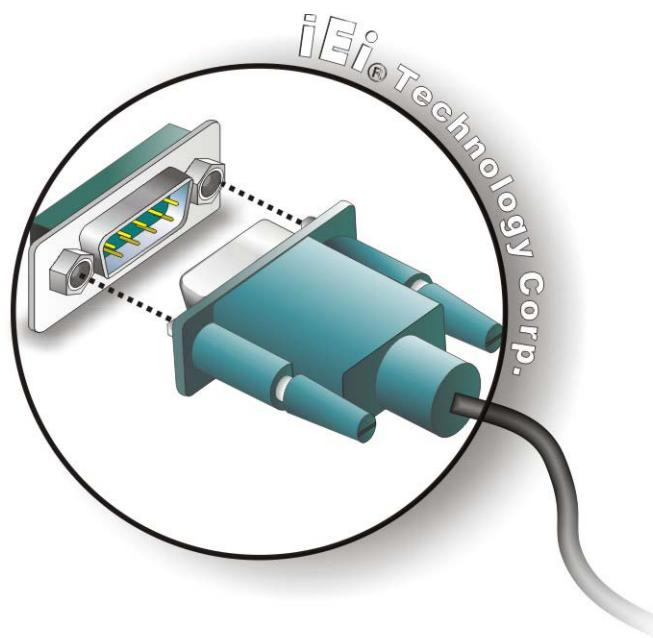

Figure 4-15: Serial Device Connector
Step 2: Insert the serial connector. Insert the DB-9 connector of a serial device into the DB-9 connector on the external peripheral interface. See Figure 4-15.